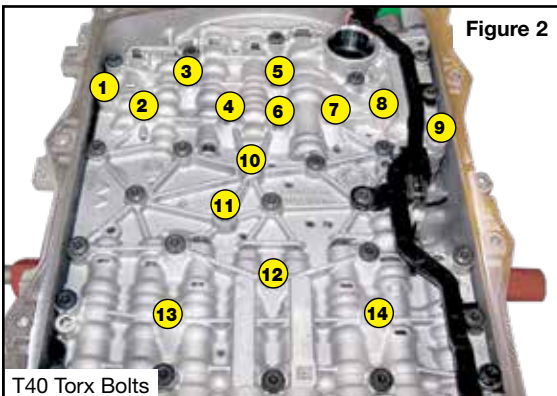

Figure 2
- Remove 14 bolts to drop valve body from case (Figure 2).